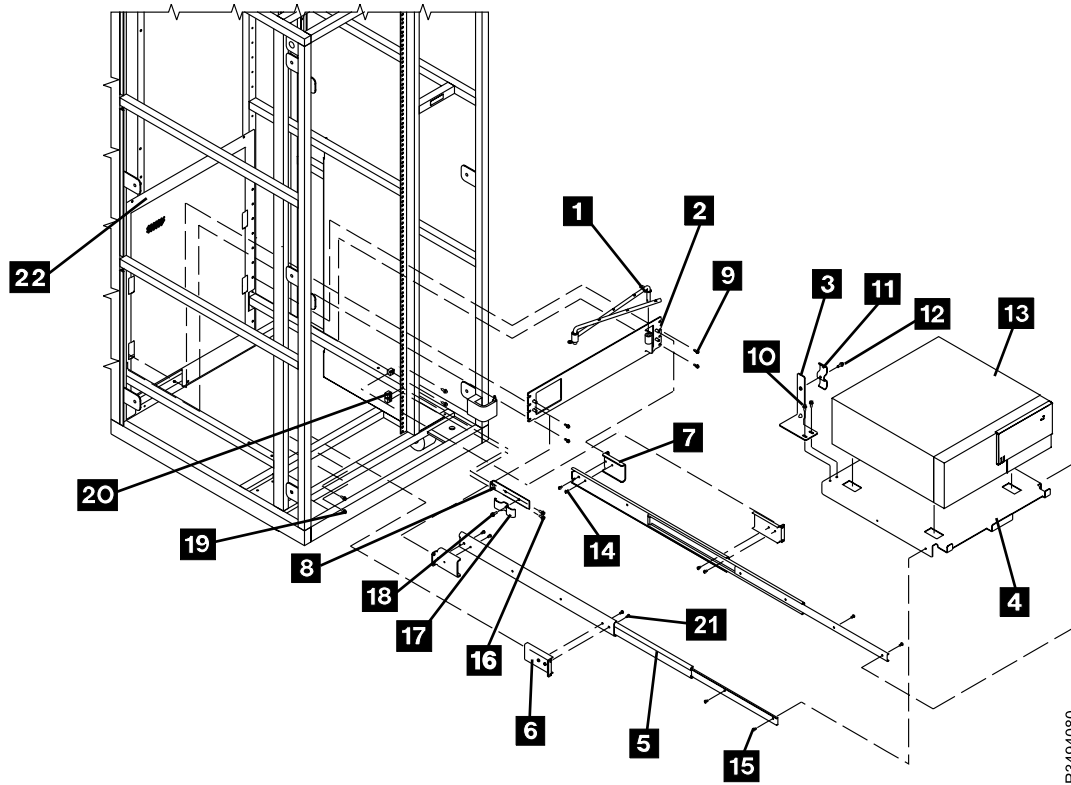

Figure 6-26. Installing the First 3590 A50 Controllers
- \_\_\_ 5. Using four screws **8** (P/N 1624776, supplied), install the slide mounting bracket **9** (P/N 05H7446, supplied) locating pin into pin hole #52 (both left and right). **See Figure 6-26 on page 6-45 when performing the following steps.**